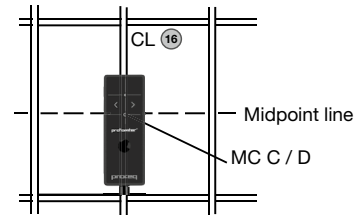

Figure 9: Optimal probe position
- Position the probe cart at the start line in an optimum position (see Figure 9, the MC **C / D** at the mid line of the rebars running parallel to the moving direction, both rectangles in ⑩ are of equal size).
NOTE! It is advisable to locate the first and second layer rebars with the Locating Mode to find the optimum line position prior to measuring with the Multi-Line Mode (see Figure 9). "Align Rebar Position" should only be set, if all rebars are running parallel to the start line (Y-axis). For large areas it is advisable not to set "Return to start on new line" and to measure the lines alternatively start to end, back from end to start.
- Position the probe cart at the start line in an optimum position (see Figure 9, the MC C / D at the mid line of the rebars running parallel to the moving direction, both rectangles in 16 are of equal size).